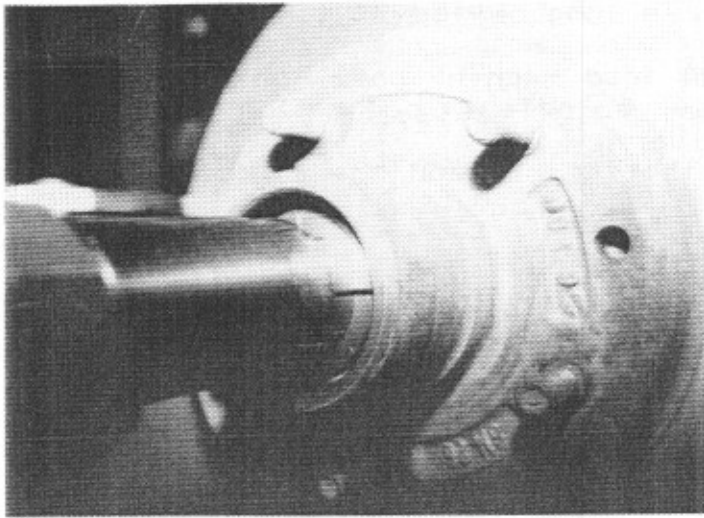

FIGURE 15
- 2004 Mount the rotor on the arbor as shown in figure 15 or figure 16. Figure 15 shows a rotor with hub attached, note that the rotor is centered from hub with two split collet adaptors on the Timken bearings. Figure 16 shows a disc set up with the RELS hubless adaptor. Install the silencer band, this is easily done by stretching the band around the outside of the rotor.